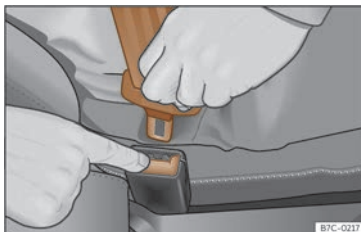

Fig. 20 Release the seat belt's latch plate.
- Press the red button on the buckle >>> **Fig. 20**. The latch plate is released from the buckle.